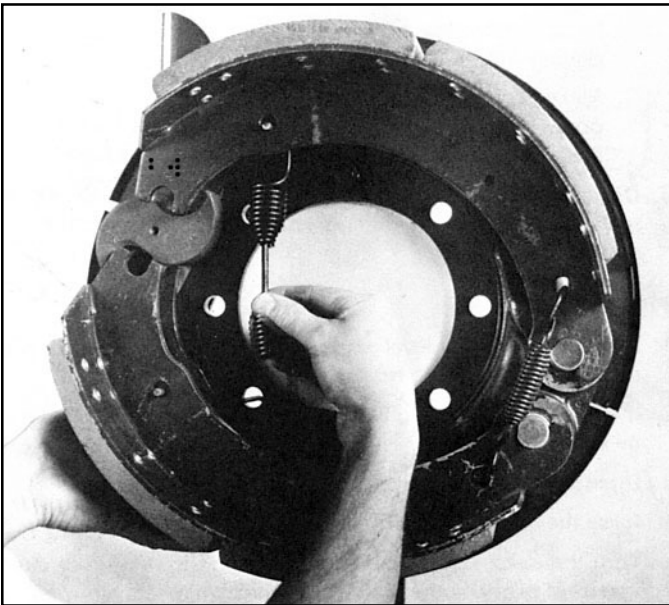

FIGURE 4 - REMOVING SHOE RETURN SPRING
2. Remove shoe return spring and discard. Force shoes towards the S-cam to relieve spring tension (Figure 4).